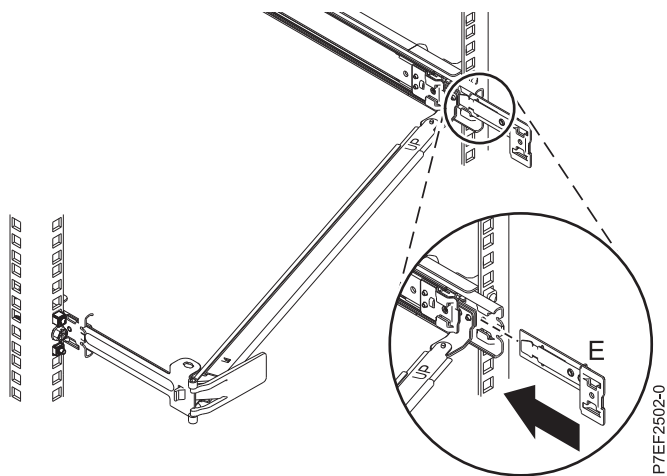

Figure 13. Installing the extension bracket into the slide rail
5. Slide the extension bracket (**E**) into the right slide rail until the spring-loaded pin snaps into place. For details, see Figure 13 on page 10.